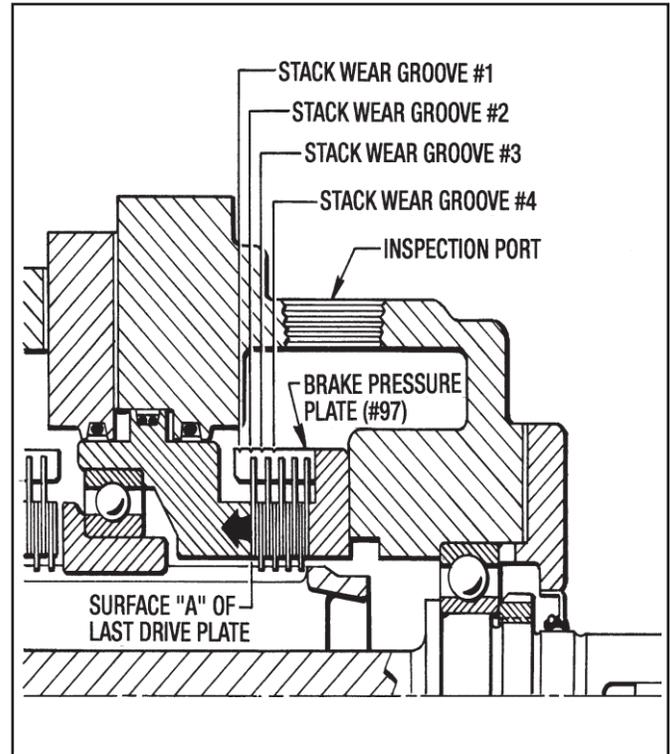

Figure 6.2 - Checking Clutch and Brake Stacks for Wear
2. With the Hydraulic Pump running and with a flashlight observe the position of Surface "A" of the last Drive Plate as shown in Figure 6.2.
A. BRAKE STACK WEAR (See Figure 6.2)
B. CLUTCH STACK WEAR (See Figure 6.2)